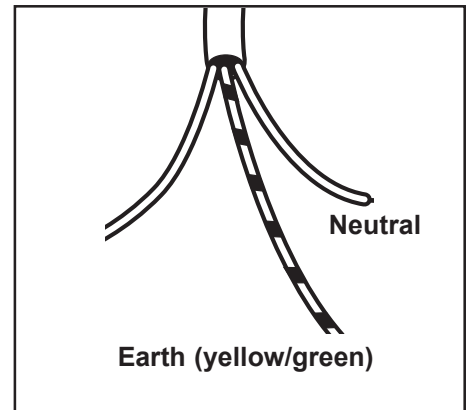

Fig. 7
The yellow/green earth wire must be approximately 2 cm. longer than the phase wires (Fig. 7).
2. exert a light pressure and lift (Fig. 7)